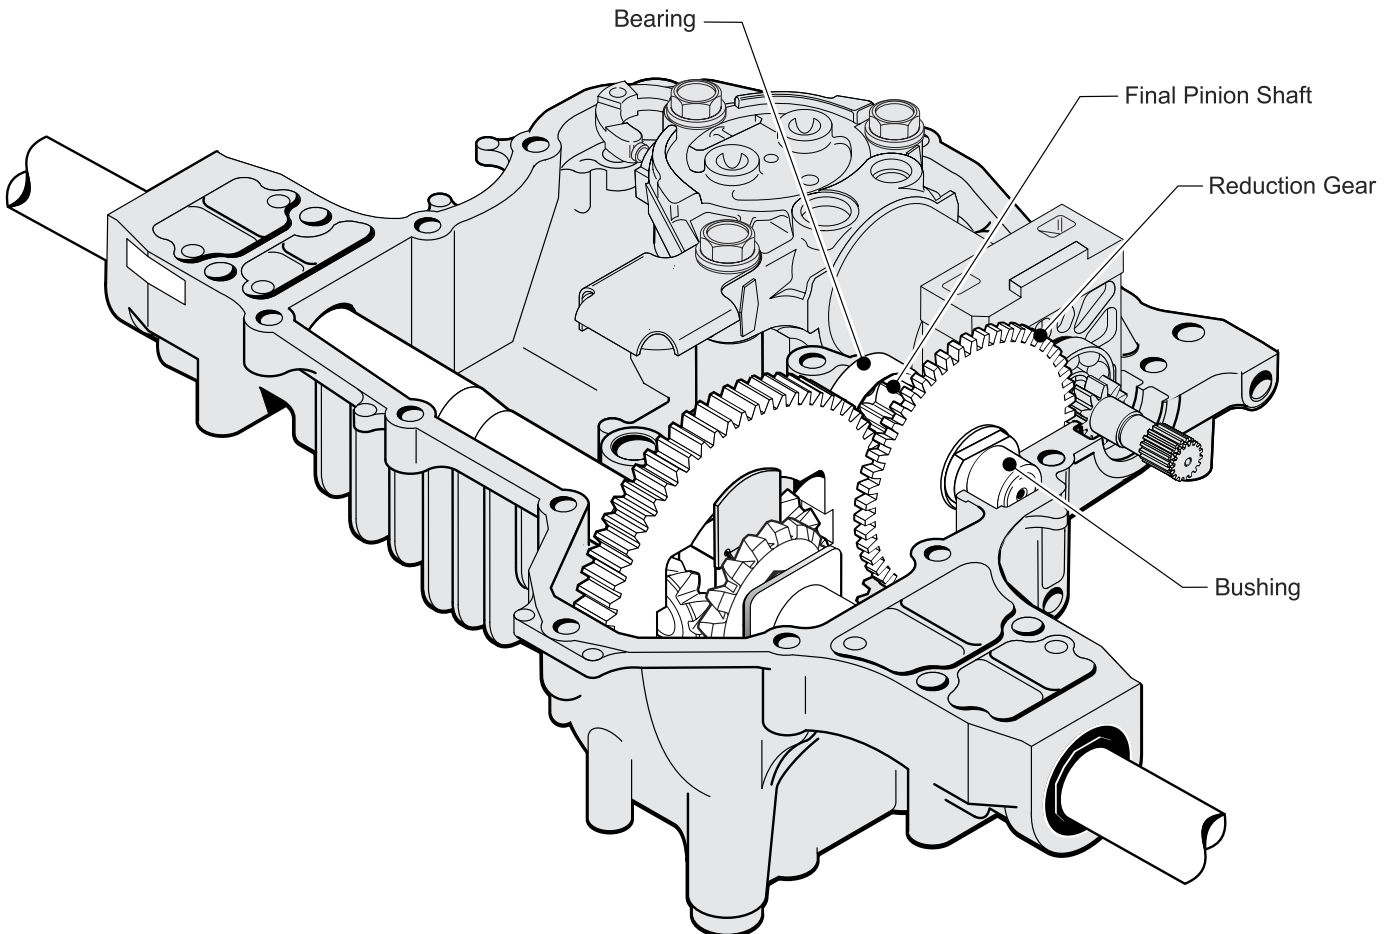

Fig. 43, Final Pinion Shaft Assembly
3. Install Final Pinion Shaft Assembly into Upper Case. (Fig. 43)
- ◆ Activate the Bypass Linkage so that "C" Arm (Fig. 43) retracts, providing additional clearance for the positioning of the Lower Case onto the Upper case.